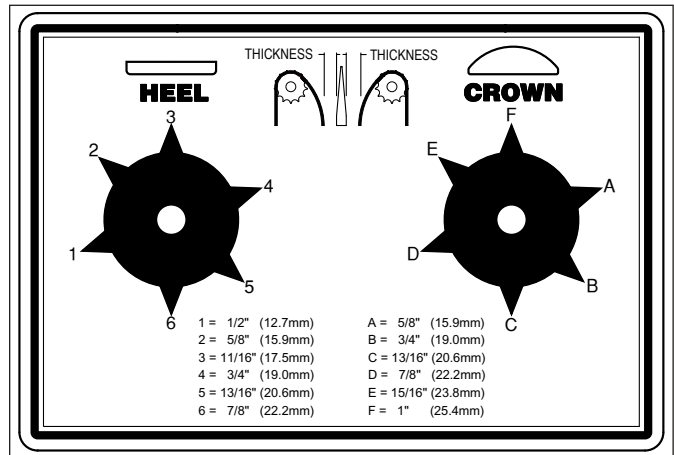

Figure 2. Bun Thickness Adjustment Controls
1. Set the Bun Thickness Adjustment Controls (Figure 2) to desired setting.